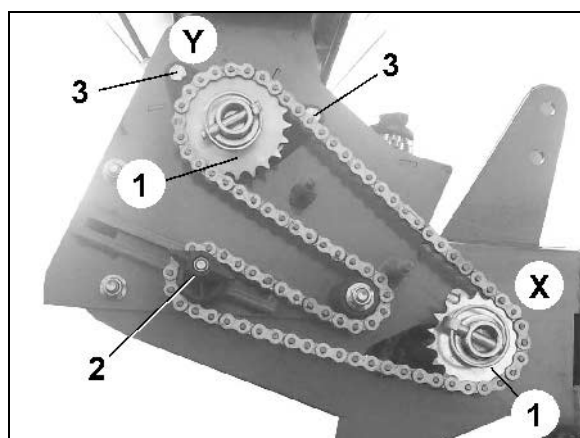

Fig. 29
2. Slacken thumb nut (Fig. 29/1) to release the chain tensioner (Fig. 29/2).
3. Remove chain (Fig. 29/3).
4. Remove lynch pin and remove chain wheels (Fig. 29/6) and (Fig. 29/7).
5. Choose the required chain wheels – for this example chain wheels with 14 and 26 teeth – among the chain wheel set (Fig. 29/8).